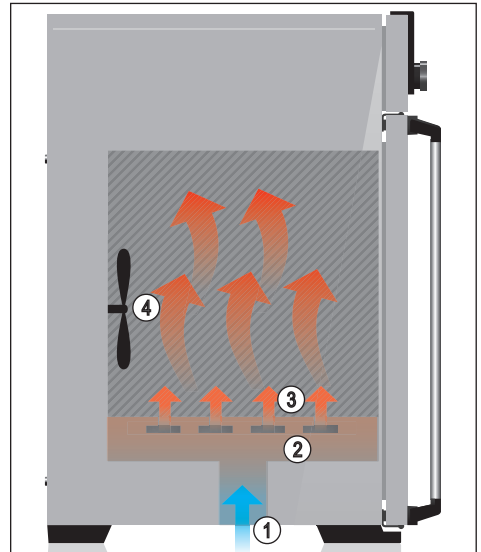

Fig. 3 Function
This appliance can heat the chamber up to max. 80°C. Supplied air (Fig. 3, 1) is heated in a pre-heating chamber (2). The preheated air is introduced into the chamber through the ventilation slits in the side wall of the chamber (2). A fan on the rear wall of the chamber (4) increases air flow and ensures higher horizontal forced air circulation in comparison to natural convection.